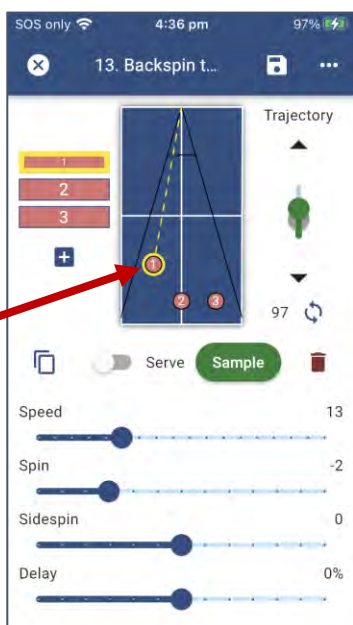

Figure 3-63
3. Using a finger, touch Ball 1 and drag it to a position closer to the center of the table. (Figure 3-63)